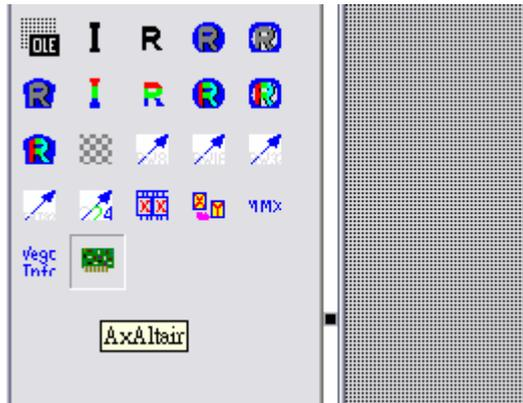
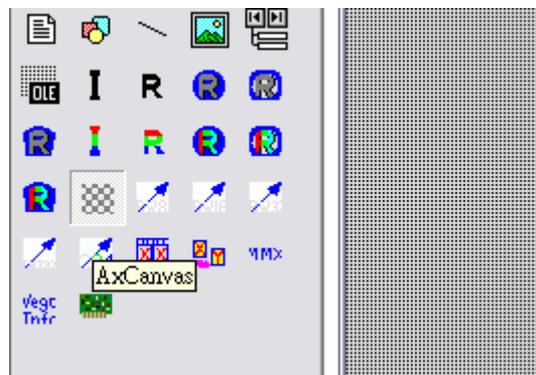

Figure 19.
Figure 20.
4. Pick the component from the palette as shown in Figure 19 、 Figure 20.